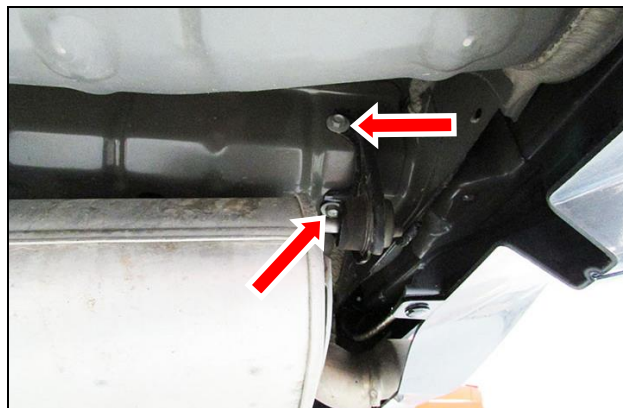

Figure 6
9. Remove (x2) 13 mm head bolts securing the right side rear OE muffler isolation mount brackets to the chassis. Remove the right side OE muffler section (**Figure 6**).